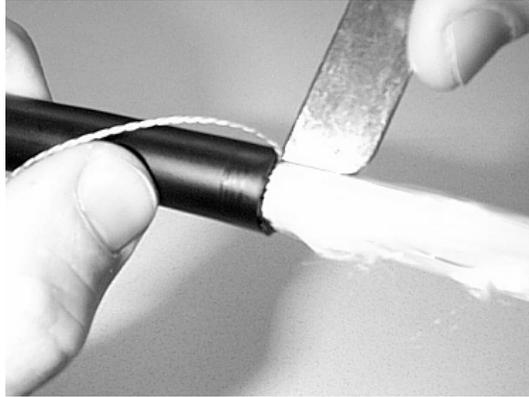

Figure 6 – Cut a starting slit adjacent to the rip cord.
4.7 Locate the ripcord and cut a small “starter slit” in the outer sheath next to the ripcord (Figure 6).